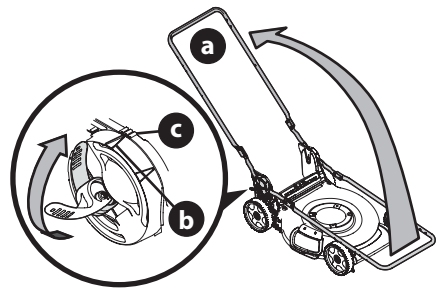

Figure 13
- While stabilizing mower so it doesn't move, lift the upper handle up (a) (Figure 13). Do not crimp blade or drive control cables while lifting the handle up.
- When lifting the upper handle ensure the position indicator (b) aligns with one of three handle positions (c) (Figure 13, inset).
- Lock the two handle release levers (Figure 13, inset).